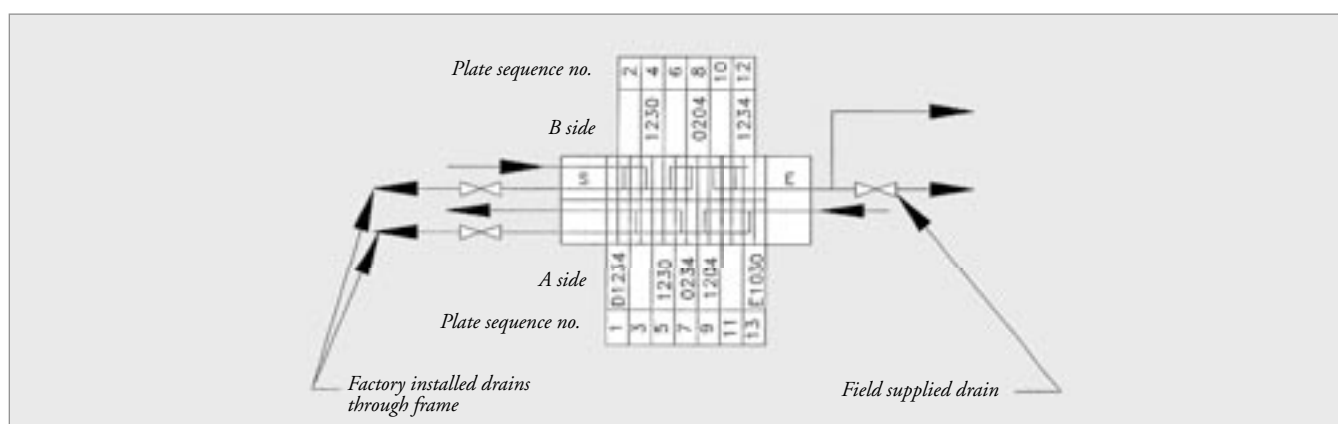

Figure 19
1. One pass/one pass (also two pass/two pass with all lower nozzles, but not shown) units can be drained by opening the piping to the lower nozzles or by opening drain valves that can be provided in the field in the connecting piping. See Figure 19.
2. Multi-pass units may require factory installed drains, i.e., an additional nozzle in the end frame. **These must be factory installed. See Figure 19.**